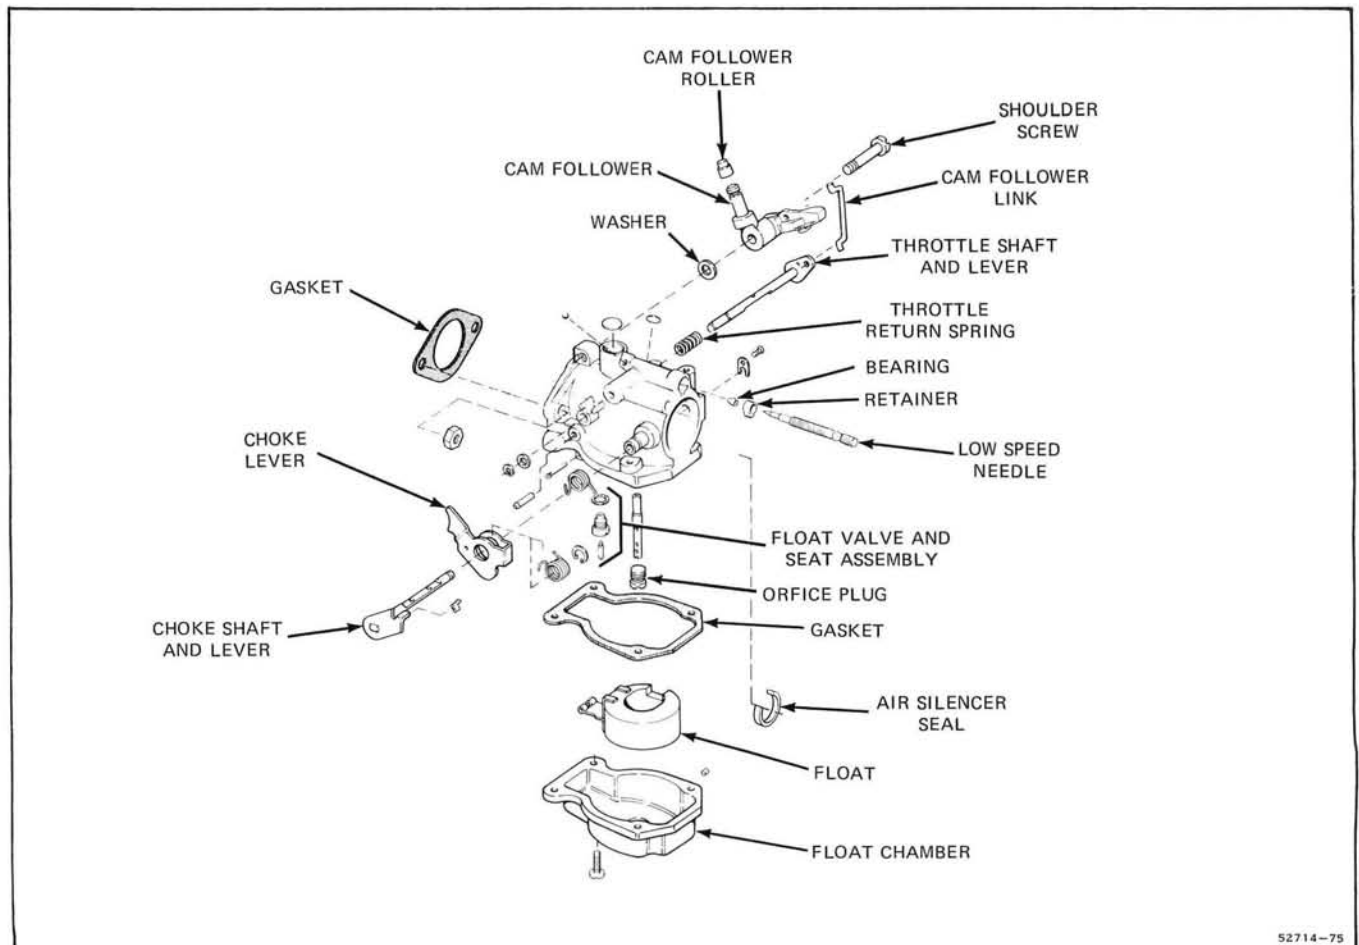

Figure 3-13. Carburetor Components
b. Remove float chamber and drain carburetor. Remove hinge pin, float and float valve assembly. See Figure 3-13.